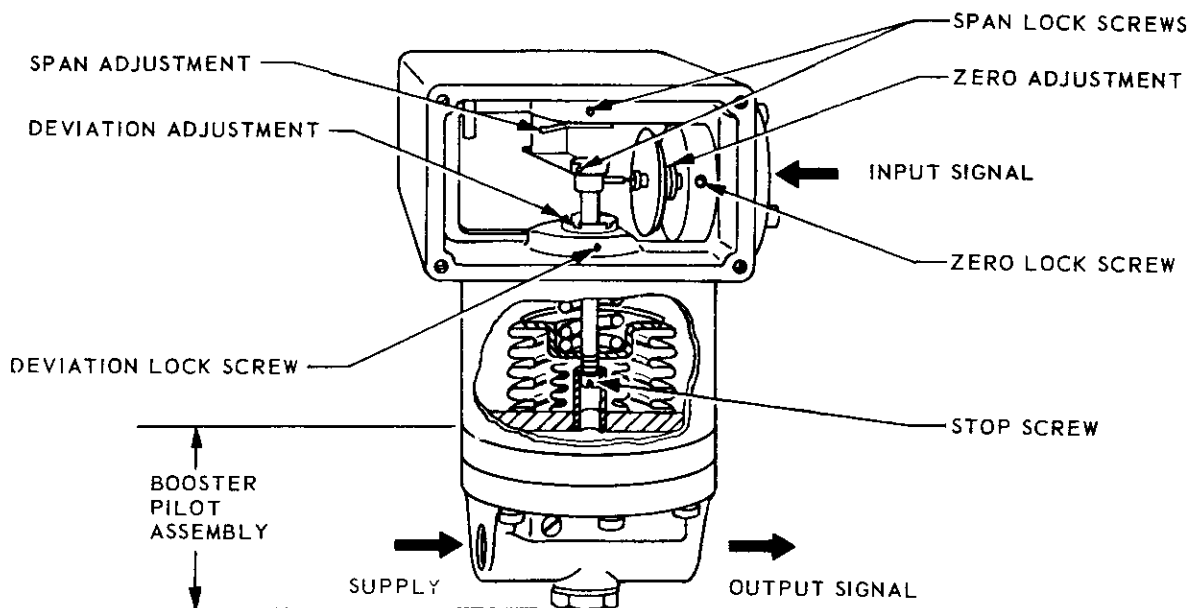

Fig. 3
**Zero (Refer to Fig. 3)**
**Deviation (Refer to Fig. 3)**
### Span (Refer to Fig. 3)
### Stop Screw Adjustment (Refer to Fig. 3)